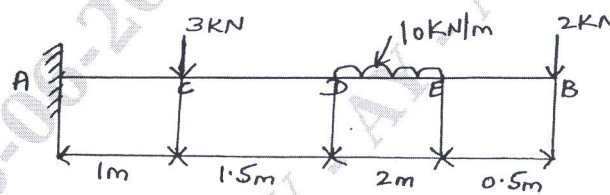

Fig.Q5(a)
- 5 a. Draw the shear force and bending moment diagrams for the cantilever beam shown in Fig.Q5(a). (08 Marks)